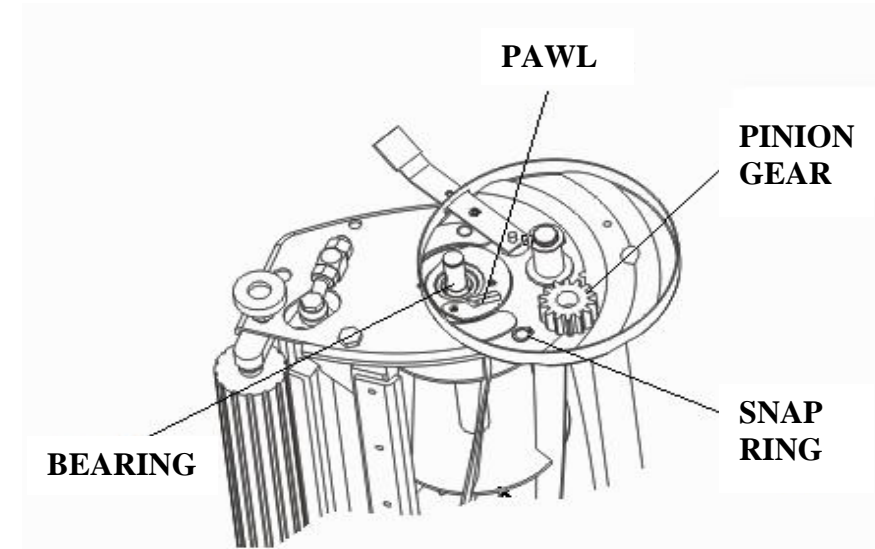

FIGURE 10
Once a season or whenever the reel is sharpened also lubricate the wheels and bearings. (Figure 10)
- F. Take off the snap ring with a pair of snap ring pliers and remove the pinion gear (Figure 10).